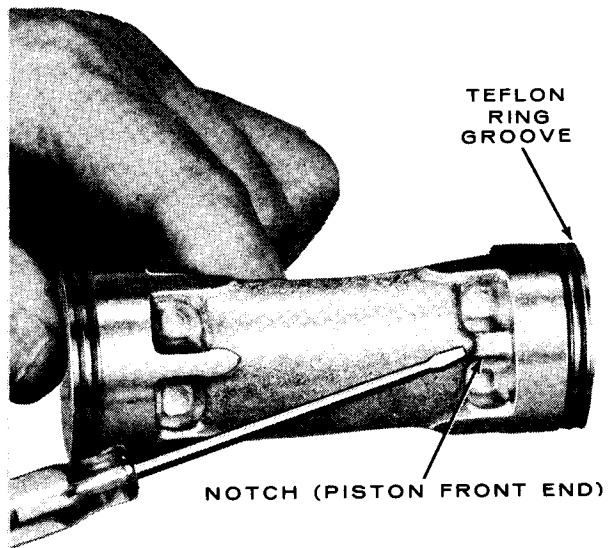

Figure 102—Notch Identifying Front End Of Piston
8. Place piston in No. 1 compartment of parts tray J-9402, with notch in casting web at front end of piston (figure 102) into the dimpled groove of parts tray compartment.
Front end of piston has an identifying notch in casting web (figure 102).